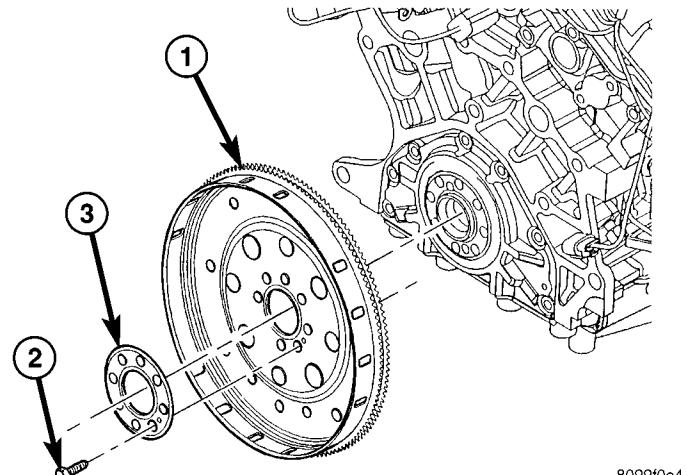

Fig. 86 FLEX PLATE
- (1) Remove the transaxle (Refer to 21 - TRANSMISSION/TRANSAXLE/AUTOMATIC - 41TE - REMOVAL).
- (2) Remove flex plate attaching bolts.
- (3) Remove the flex plate (Fig. 86).
- (1) Position flex plate with backing plate on the crankshaft (Fig. 86).
- (2) Apply Mopar® Lock & Seal Adhesive to the flex plate bolts.
- (3) Install flex plate bolts (Fig. 86). Tighten bolts to 95 N·m (70 ft. lbs.).
- (4) Install the transaxle (Refer to 21 - TRANSMISSION/TRANSAXLE/AUTOMATIC - 41TE - INSTALLATION).